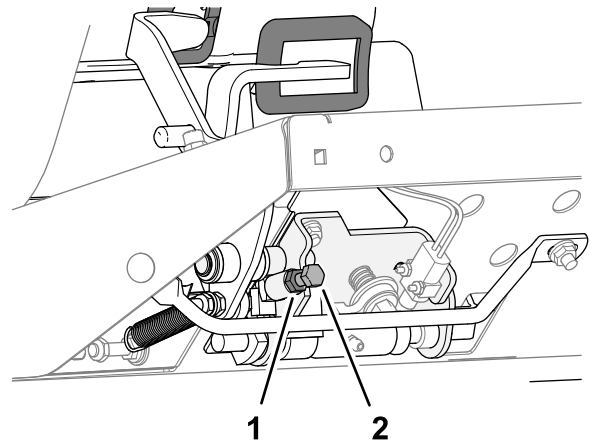

Figure 85
- To decrease the mow speed, rotate the speed stop screw (Figure 85) clockwise.